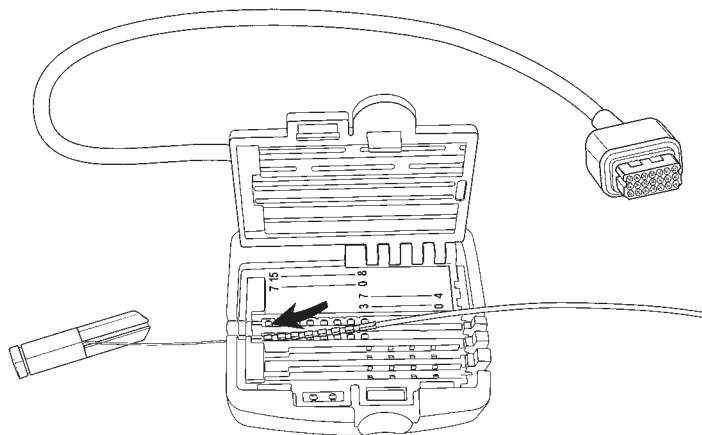

FIGURE 17
- 3 Align the proximal end of the lead against the inside end of an 8-contact lead groove (FIGURE 17), checking that the lead contacts line up with the electrical contacts inside the lead groove. If implanting a single lead, use the lead groove marked 0-7.